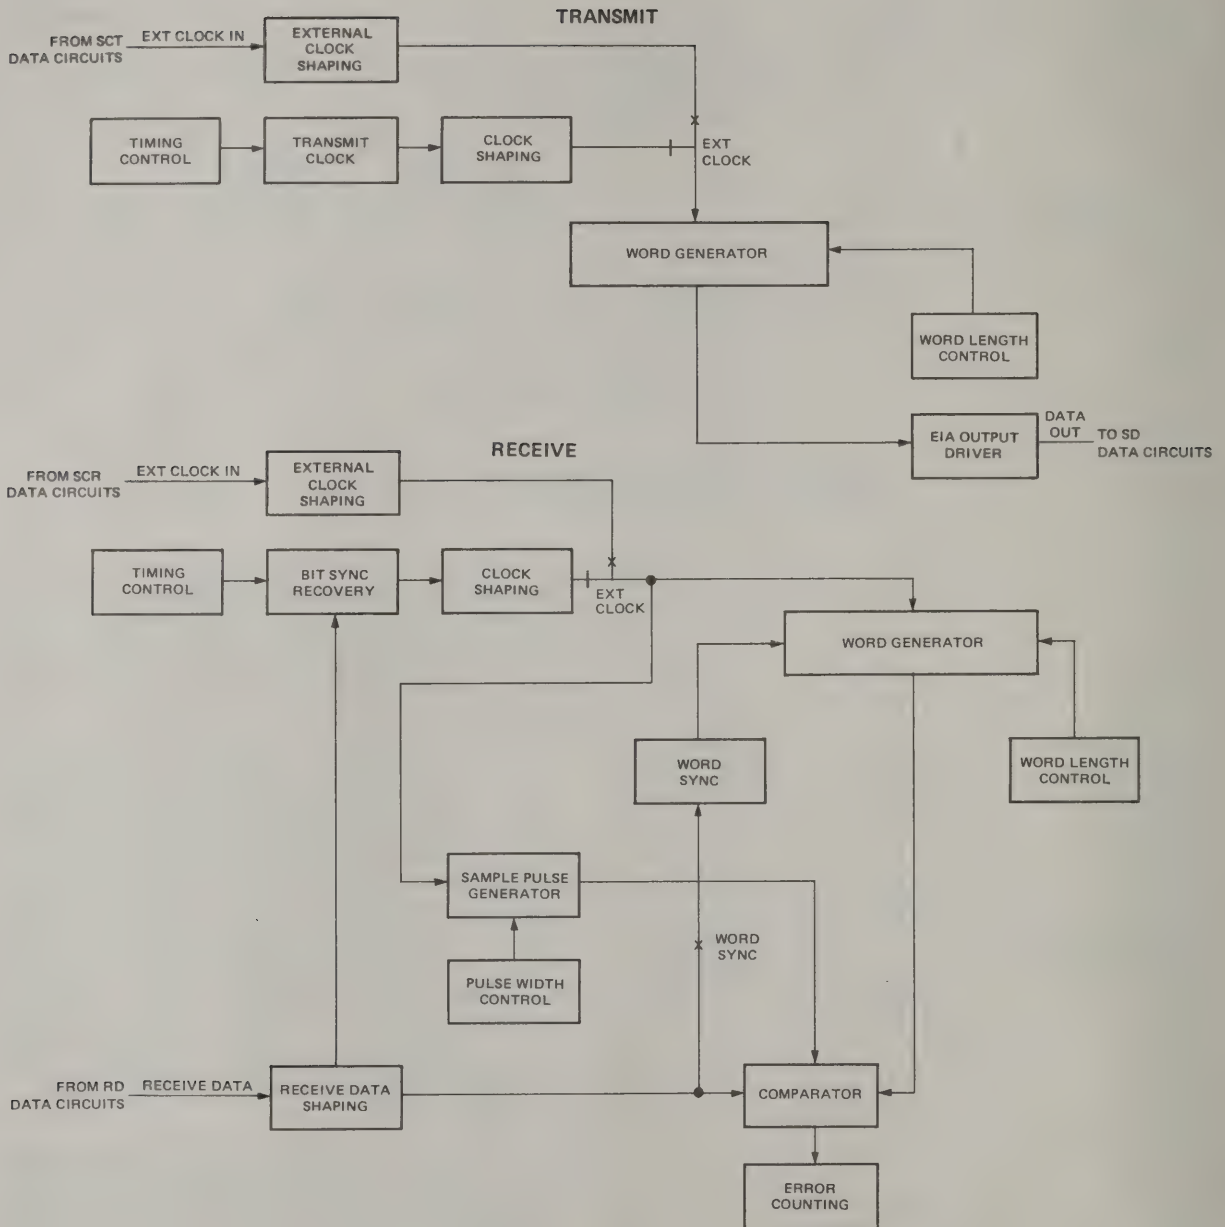

Figure 3-4. Serial Data Transmit and Receive Circuits, Functional Block Diagram
**3.10** A functional block diagram of the serial data transmit and receive sections of the 1914C is shown in Figure 3-4. Serial data transmit test functions receive a transmit clock (STC) from and transmit serial data (SD) to serial data sets. The transmit and receive clocks are entirely independent, permitting the 1914C to run in full-duplex mode. The transmit clock rate is selected by the transmit BIT RATE switch. The receive section derives its nominal clock rate from the receive